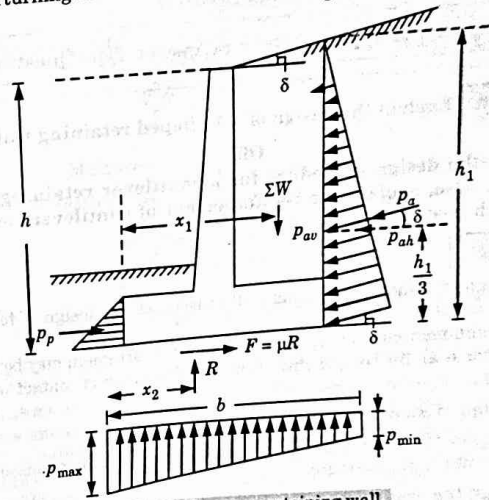

Fig. 5.15.1. Forces on retaining wall.
**Stability Requirements :** Fig. 5.15.1 shows the forces act on a retaining wall. The following requirements should be compiled for the stability of a retaining wall :